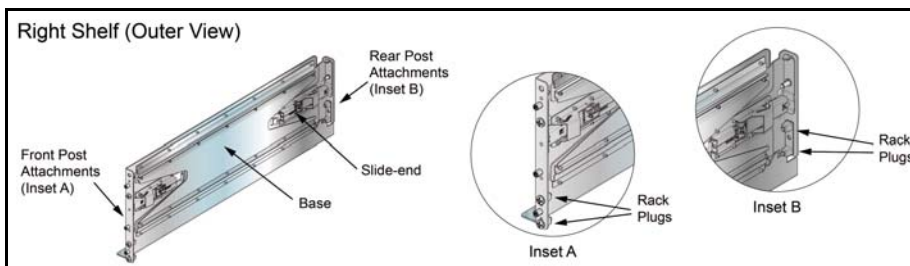

Figure 5: Right Shelf – Outer View
Figure 5 displays the outside view of the right shelf, from where rack plugs and guide pins that insert into rack posts are visible (Insets A and B). To install shelves into posts with threaded or rounded holes, remove all plugs from the shelves, then attach the shelves with bolts that fit the rack.
- Step 1** Verify that both locking mechanism latches on the shelf are open (Figure 5, insets A and B).
- Step 3** Close the front locking mechanism latch (Figure 5).
Step 6 Close the rear locking mechanism latch (Figure 5).